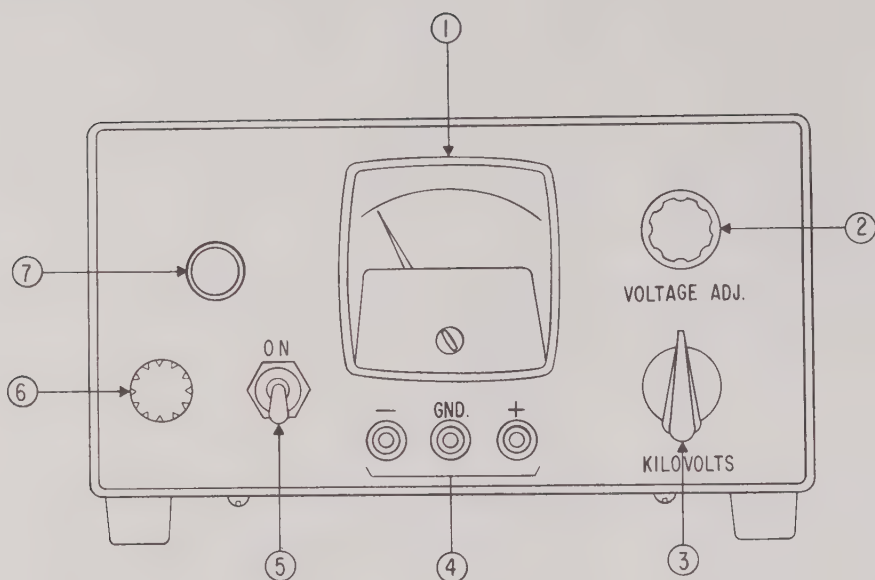

FIG. 2-1 TERMINALS AND CONTROLS, FRONT
a) FRONT PANEL: Refer to FIG. 2-1 and Table 2-1.
2-15 TURN-ON (Refer to FIG. 2-1)
2-18 MODELS ABC 200 and ABC 425. The "Short Circuit Current Adjust" control on the front panel may be adjusted over a range from approximately 25% to 150% of the rated maximum output current of the power supply. The control should be set to at least 150% of the load current at which the supply is to be operated. To facilitate this setting, the ABC power supply is equipped with a meter function switch (FIG. 2-1), which applies (in its maximum counter clockwise position) a short circuit across the supply. The resulting short circuit current may be read directly on the panel meter or, on unmetered units, on an external ammeter across the output terminals. Simultaneously, the "Short Circuit Current Adjust" on the front panel may be adjusted to the desired load current, plus 50%. If, for example, 80 mA of load current are required, the short circuit current should be adjusted to at least 120 mA.